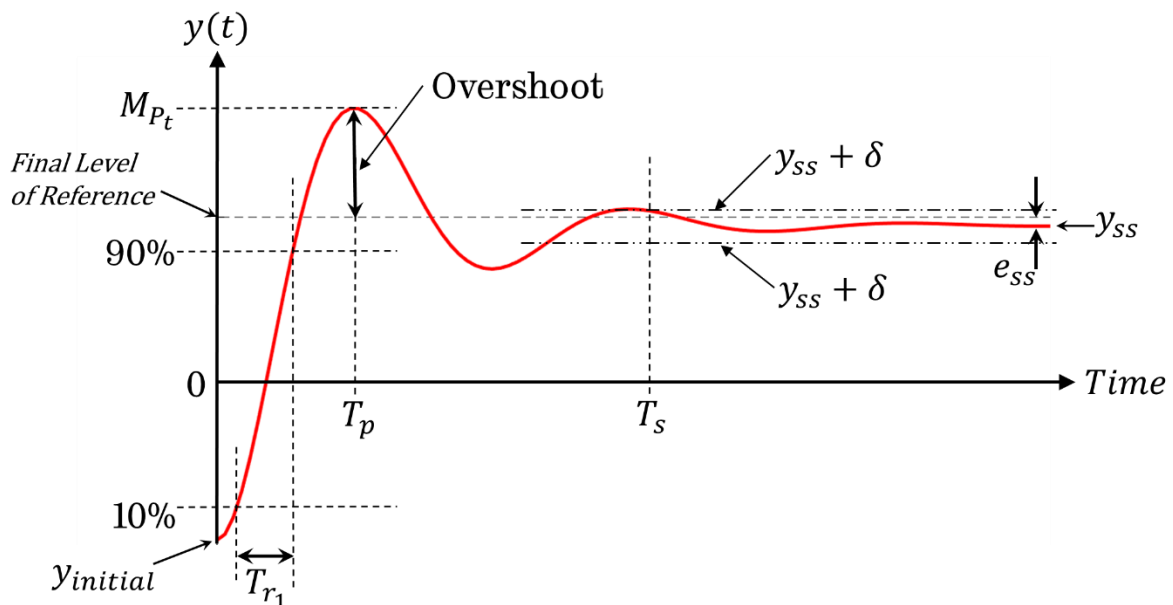

Figure 3. Normalised step response of characteristic, illustrating a of performance specification parameters
When designing and analysing a control system, system response characteristics are used to describe the desired and observed system behaviour. The response characteristic, shown in Figure 3, shows the output response of a system to a step input, (step occurs at $t=0$, and has a magnitude of 1), and illustrates a number of the standard performance metrics often provided for control system design.
Where: $y_{initial}$ is the initial output signal value before the step input, y_{ss} is the steady state output value of the system, M_{Pt} is the maximum peak value of the overshoot, and e_{ss} is the steady-state error between y_{ss} and the final level of the reference signal, as illustrated in Figure 3.
- **Percentage overshoot, P.O.:** the percentage of the steady-state output level, from the initial level, that the output of the system overshoots by, in response to a step input, before steeling back to its steady state level. For the response shown in Figure 3, this would be:
- **Rise Time, T_{r1} :** is defined as the time for the system step response to rise between 10% and 90% of the steady-state output value, from the initial value, as illustrated in Figure 3. (In the case of Figure 3, the initial value is zero – this will not be the case for the experimental system).